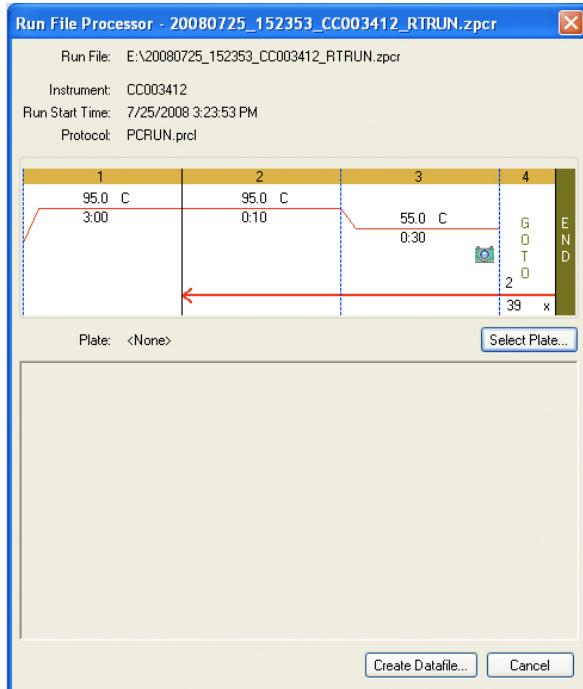

Figure 50. Assigning a plate file.
2. In the **Run File Processor** window, click the **Select Plate** button to import the name of the plate file the software will use to create the data file (Figure 50).